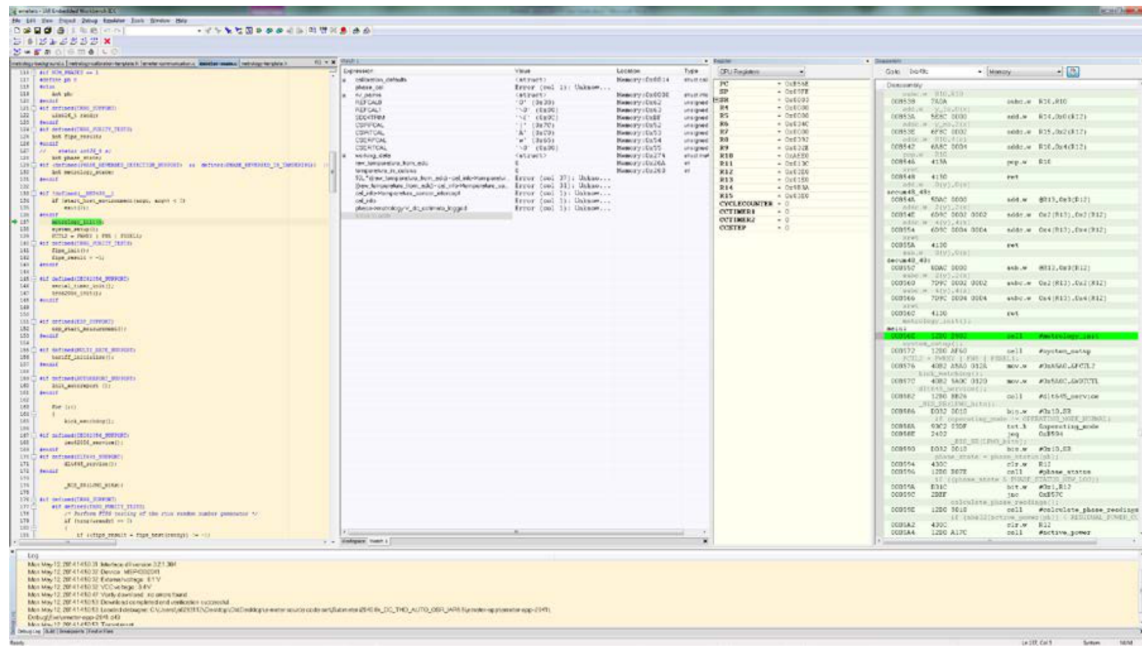

Figure 32. Debugger Screen
12. After downloading is completed and successful, a screen like that shown in Figure 32 will appear. Click Go to start application running.